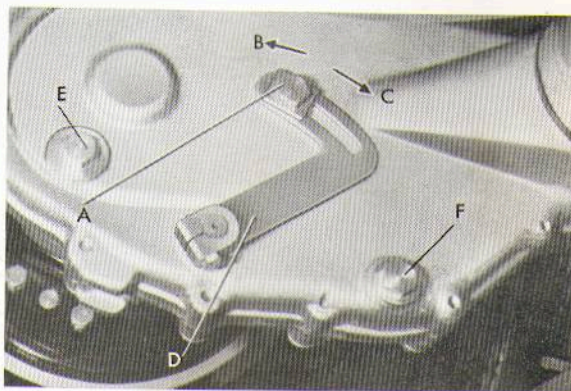

Fig. 11
Drain the oil from the drain plug (F) shown in Fig. 11 and fill oil through the filler plug (E) until the oil flows out the filler opening. The next oil change is at 18,000 km (11,000 miles) and at every 18,000 km (11,000 miles) thereafter.